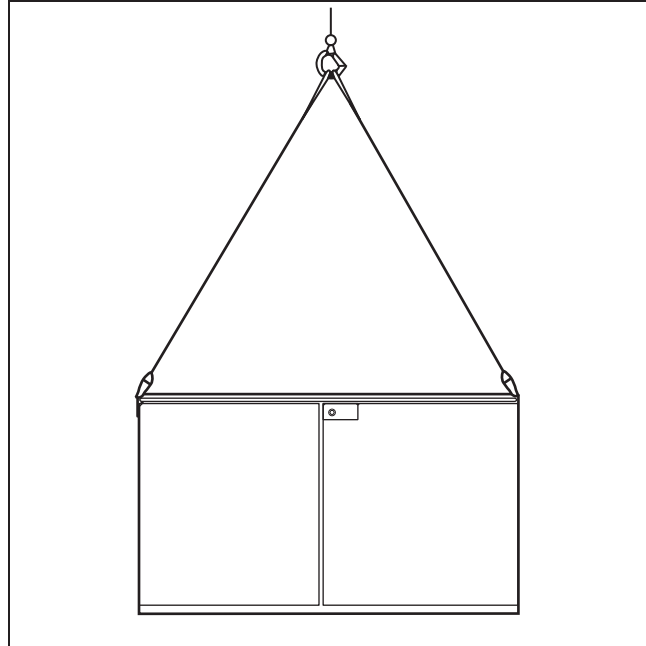

Figure 1. Hoisting arrangements.
- STEP 3.** Arrange the hoist slings so as to distribute the lifting forces equally between the lifting tabs. See Figure 1.